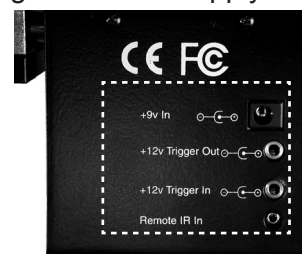

Figure 28
1. Locate the external Power Supply (supplied with the LN9101M) and connect the plug on the end of the cable to the +9V Jack on the LN9101M Sled Connection Plate. Plug the Power Supply into an active AC Outlet. Refer to figure 28.